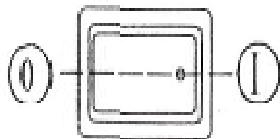

fig.1
- 1.The switch is at the end of the motor. When you press down the place with a white point of the switch(be the place marked “I” on the tailood), the motor starts. And the motor is stopped when press down the place which is not marked of the switch (be the place which is marked “0”on the tail- hood). (as fig.1).